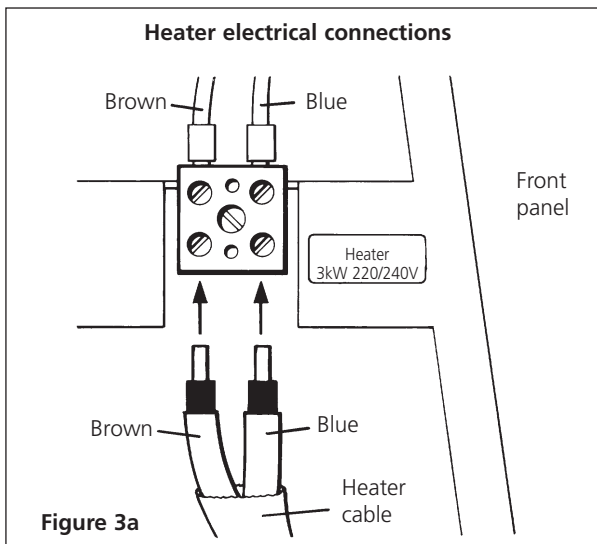

Figure 3a
- Connect the heater cable as shown in **figure 3a**.
Cable connections are shown in **figures 3a** and **3b**. Connect to the line supply noting that the wires in the instrument lead are coloured in accordance with the following code: